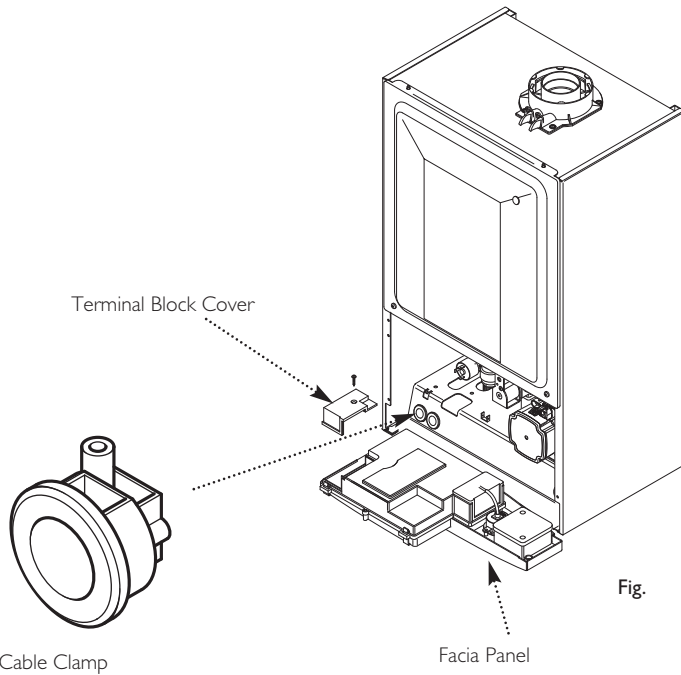

Fig. 31
4. Slacken the unused cable clamp on the LH side of the boiler chassis (Fig. 31). Insert the external control wiring through the clamp and route it to the terminal block.